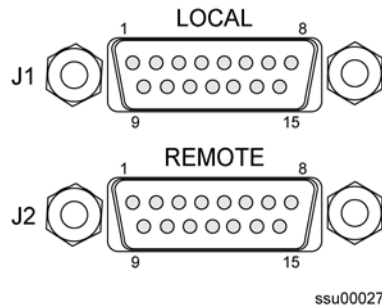

Figure 2-6. Alarm Contact Closures and Pin Assignments
The SSU-2000e Shelf has two filtered DA15P male connectors for local and remote alarm contact closure connections, as shown in Figure 2-6. The local connections are made on J1 and the remote connections are made on J2. The connectors are labeled ALARM CLOSURES, LOCAL (J1) and REMOTE (J2). They each have connections for normally open (NO), common or wiper (COM), and normally closed (NC) for each of these alarm categories: CRITICAL, MAJOR and MINOR.